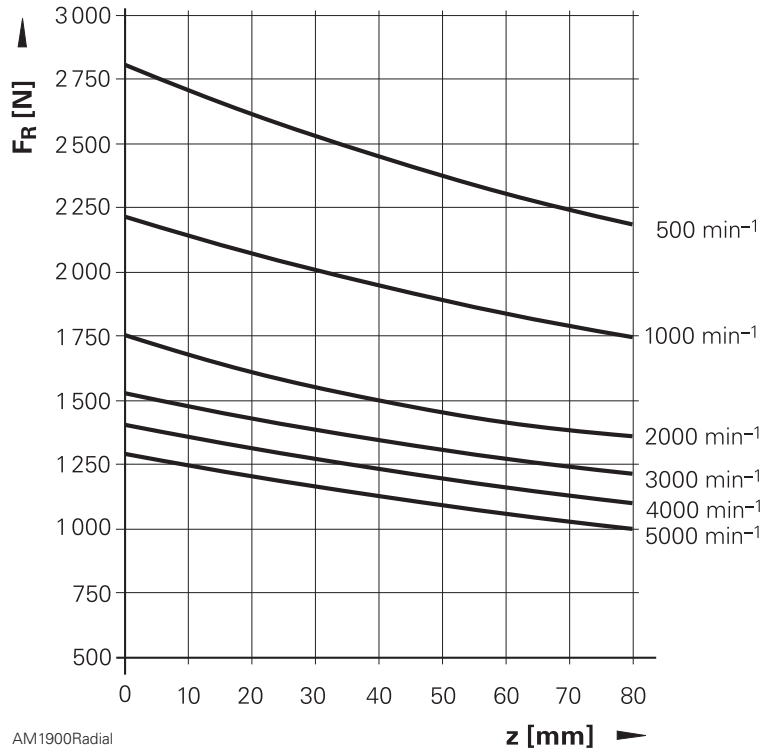

Figure 7-78, AM 1900 Series - Permissible Radial Force on the Motor Shaft (F_R)
- Use the first diagram to determine the maximum permissible radial force F_R over the distance z and average speed (for example, refer to Figure 7-78, AM 1900 Series - Permissible Radial Force on the Motor Shaft \(\$F_R\$ \)).
- The combined load F_{com} must not exceed the permissible radial force F_R for the first diagram (for example, refer to Figure 7-78, AM 1900 Series - Permissible Radial Force on the Motor Shaft \(\$F_R\$ \)).
- Figure 7-78, AM 1900 Series - Permissible Radial Force on the Motor Shaft \(\$F_R\$ \)